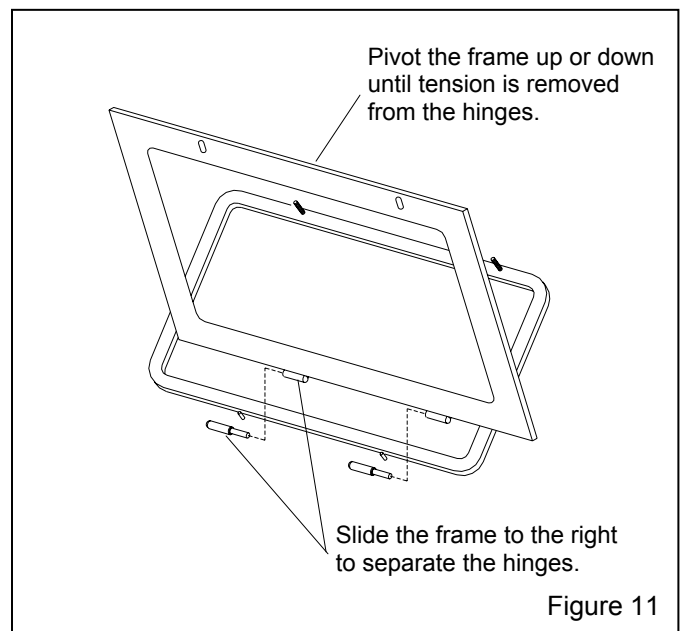

Figure 11
7.5 Window Frame Removal, Figure 11
7.5.4 Slide the frame to the right, to remove. The hinges separate as shown in Figure 11.